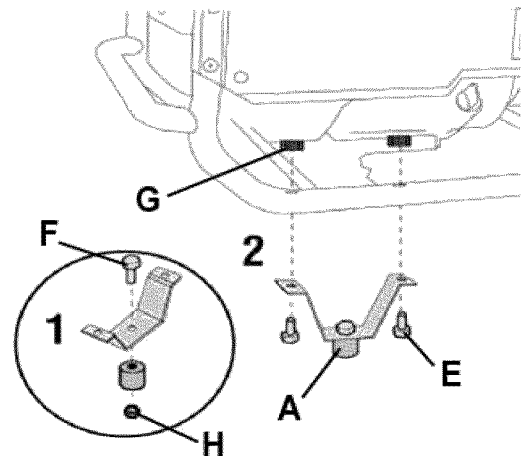

Figure 2-2: Frame Feet and Rubber Bumpers
2. Refer to Figure 2-2 and install the Frame Feet and Rubber Bumpers as shown.